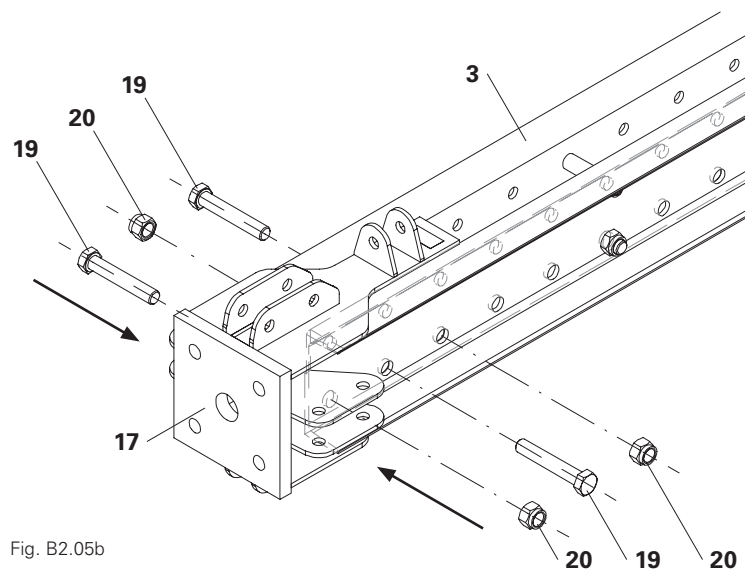
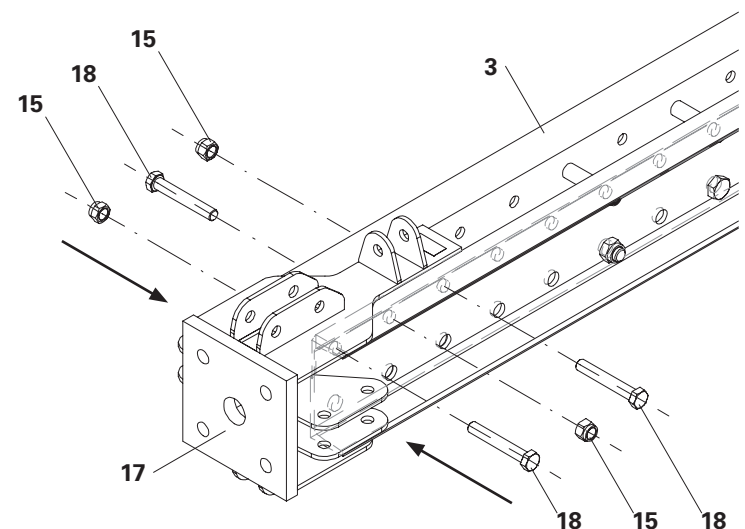

Fig. B2.05b
Fig. B2.05c
1. Insert prop base VST 48 (17) into the climbing rail RCS 248 (3)\* on the side with the 5 free rows of holes.
2. Insert 1 x bolt ISO 4014 M20 (18) from the left-hand side.
3. Insert 2 x bolts ISO 4014 M20 (18) from the right-hand side.
4. Attach nuts ISO 7042 M20 (15) and tighten the connections.(Fig. B2.05b)
5. Insert 1 x bolt ISO 4014 M24 (19) from the right-hand side.
6. Insert 2 x bolts ISO 4014 M24 (19) from the left-hand side.
7. Attach nuts ISO 7042 M24 (20) and tighten the connections.(Fig. B2.05c)